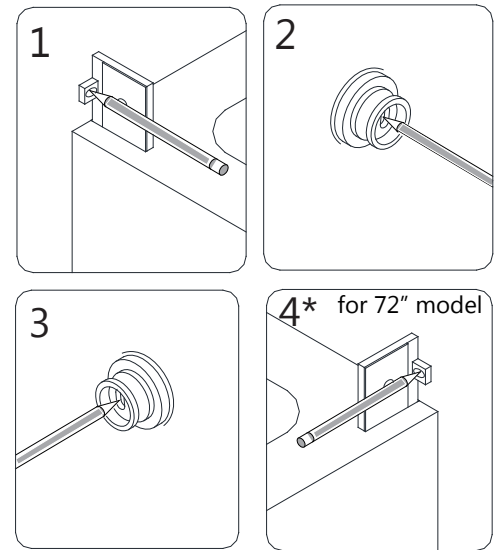

Fig 11
***NOTE: If installing the 72" model,** perform the same procedure on the opposite wall to mark the **Wall Bracket (#19)** for the **Small Stationary Panel Glass (#23)** (see Fig 11.4*). **(Fig 11)**